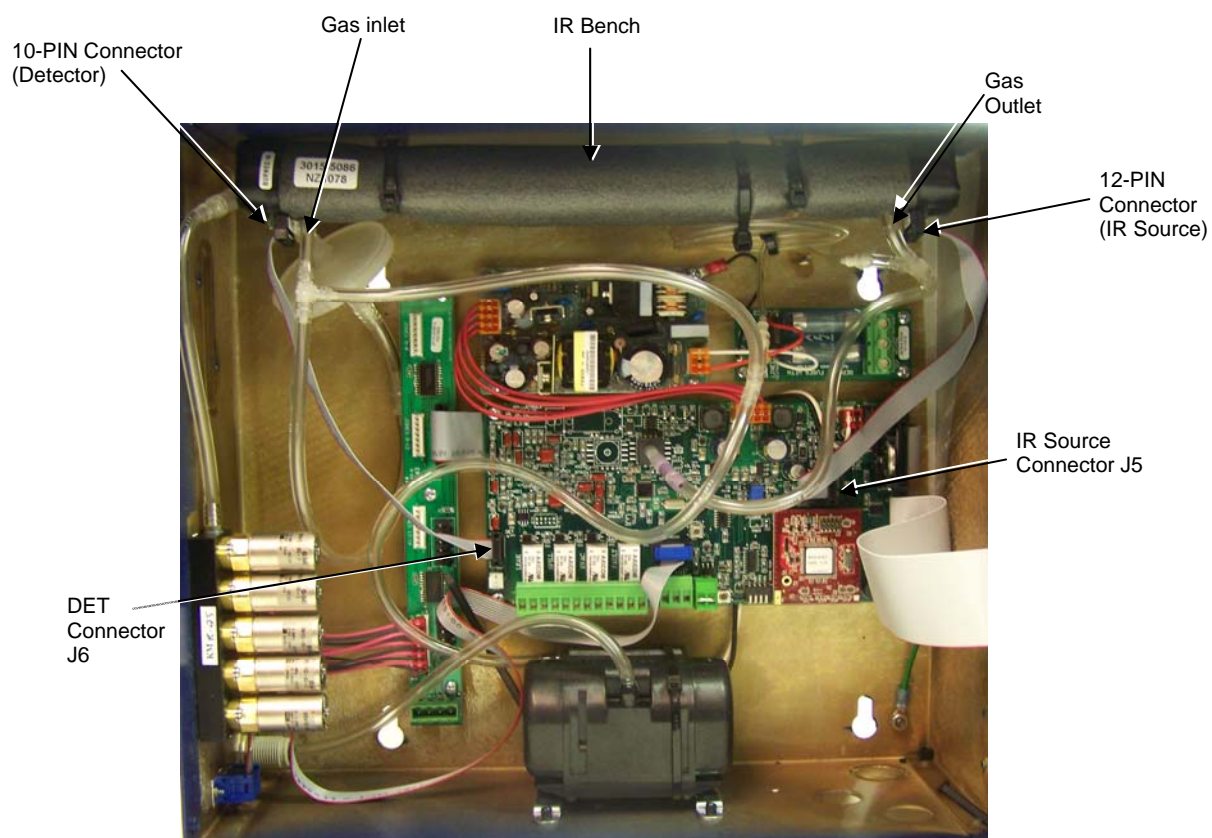

Figure 2: AGM-MZ Components
3. Take time to familiarize yourself with the internal components displayed in the following figures. Figure 1 is a diagram of the AGM-SZ while Figure 2 is a diagram of the AGM-MZ.